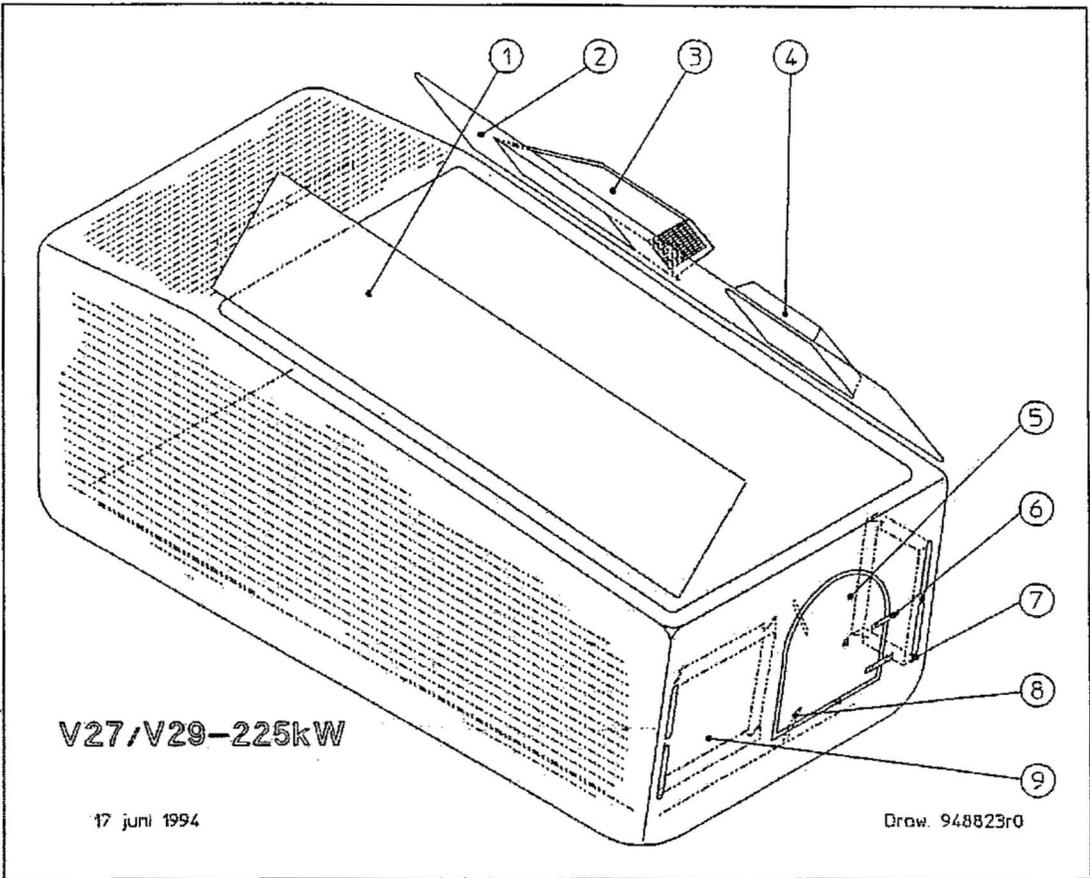

Figure 4-66. Nacelle cover, fiberglass parts
**Refer to** Figure 4-66 and 4-67